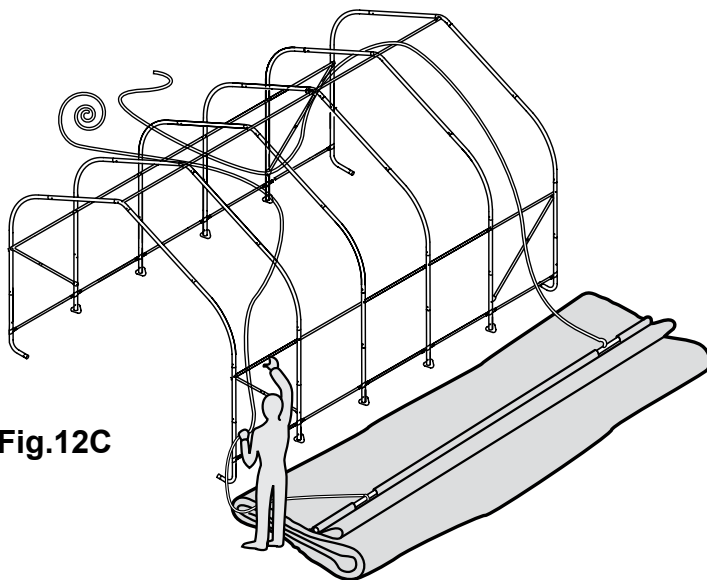

Fig.12C
3. Tie the rope on each of the exposed pipes and throw the other end of the rope over the frame. **Fig. 12C**